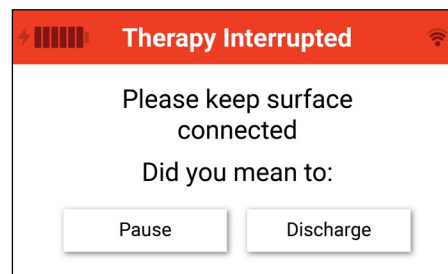
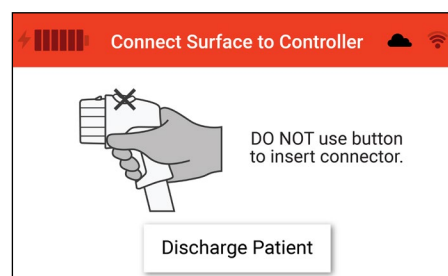

Figure 25. Keep Support Surface connected prompt screen
Figure 26. Support Surface disconnected alert screen
1. If the support surface is disconnected while running, a prompt will appear with a five (5) second auditory tone. Reconnect the support surface into the front of the controller or make a selection to dismiss the prompt. Do not use the button to insert the connector. Push until there is a click. (Fig. 25)
2. If the Keep Support Surface Connected Prompt (Fig. 25) is not addressed within five (5) minutes, an auditory alert will occur and the support surface disconnected alert screen will repeat every hour that the alert is active. (Fig. 26)
1. If the support surface is disconnected while running, an auditory alert will sound for five (5) seconds and an alert screen will appear. (Fig. 26) Reconnect the support surface into the front of the controller to dismiss the prompt. Do not use the button to insert the connector. Push until there is a click.
- If the support surface disconnected alert is not addressed, an auditory alert will occur for five (5) seconds every hour that the alert is active.